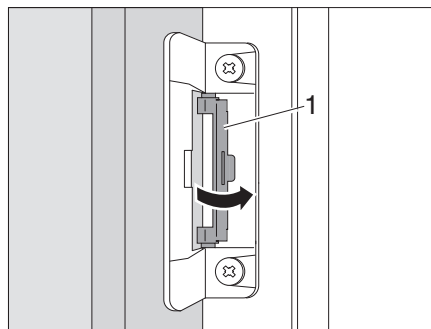

Fig. 120 Turning the locking mechanism back to the initial position
- Turning the locking mechanism (Fig. 120,1) back to the initial position.